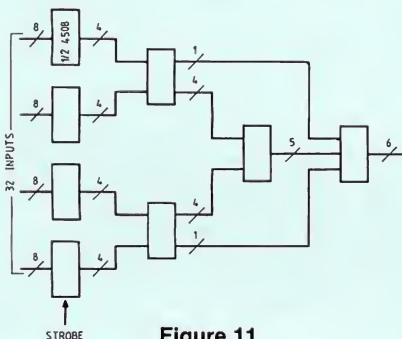

Figure 11
1) Figure 11 is a majority logic system for 32 inputs, using four 4508 Fully Programmable Logic Units (eight sections). Each section in the first level is programmed to provide a binary coded output on a convenient number of bits, as indicated. The remaining 4508 sections perform the sum of the two binary numbers present at the input, and provide an output.